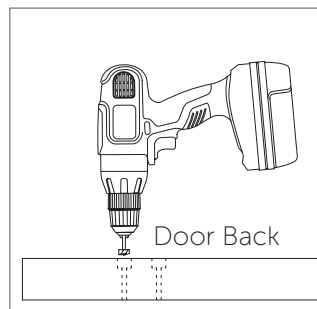

Figure 4
7. Turn the door over and using a 1-1/8" Forstner bit*, drill a 3/8" deep hole into each pilot hole (Figure 4).